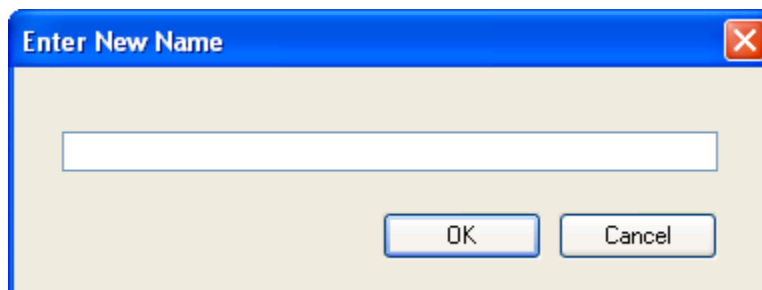

Figure 53 - Enter New Name Window
3. The **Enter New Name** window (Figure 53) appears.